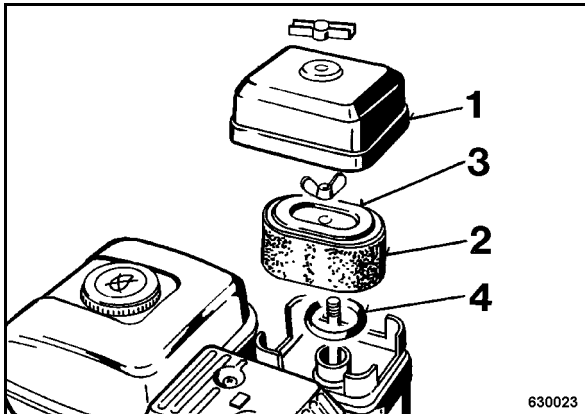

Fig. 38
- Remove cover (1) (Fig. 38) and pull the foam insert (2) off the paper element (3).